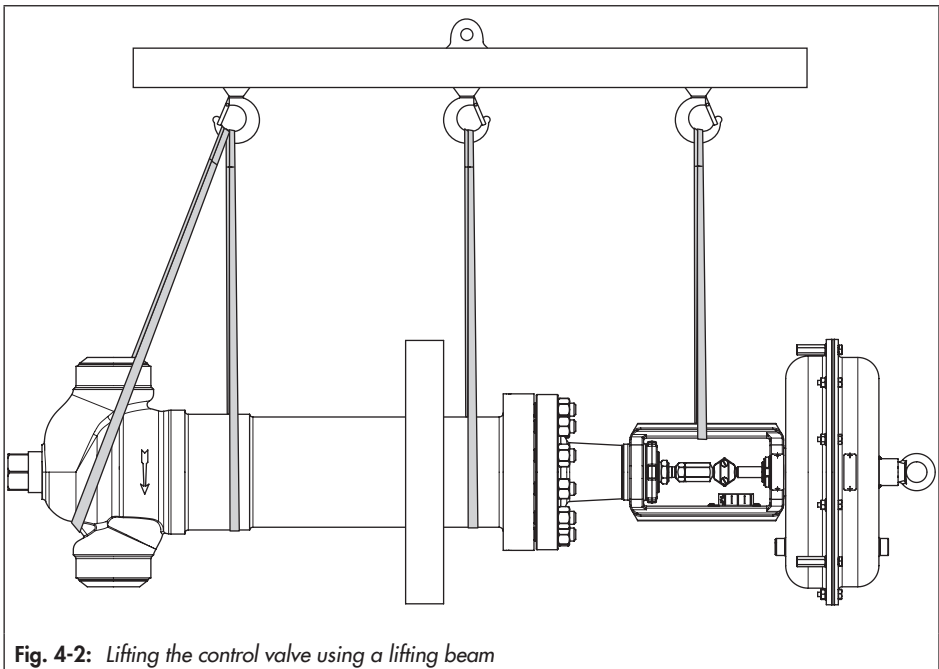

Fig. 4-2: *Lifting the control valve using a lifting beam*
- Use a hook with safety latch (see Fig. 4-1 and Fig. 4-2) to secure the slings from slipping off the hook during lifting and transporting.
The control valve can be lifted in the horizontal position either using one hook (Fig. 4-1) or using several hooks on a beam (Fig. 4-2).
2. **When using a beam for valves in NPS 4 or larger:** attach additional sling to support the valve at the body (see Fig. 4-2).